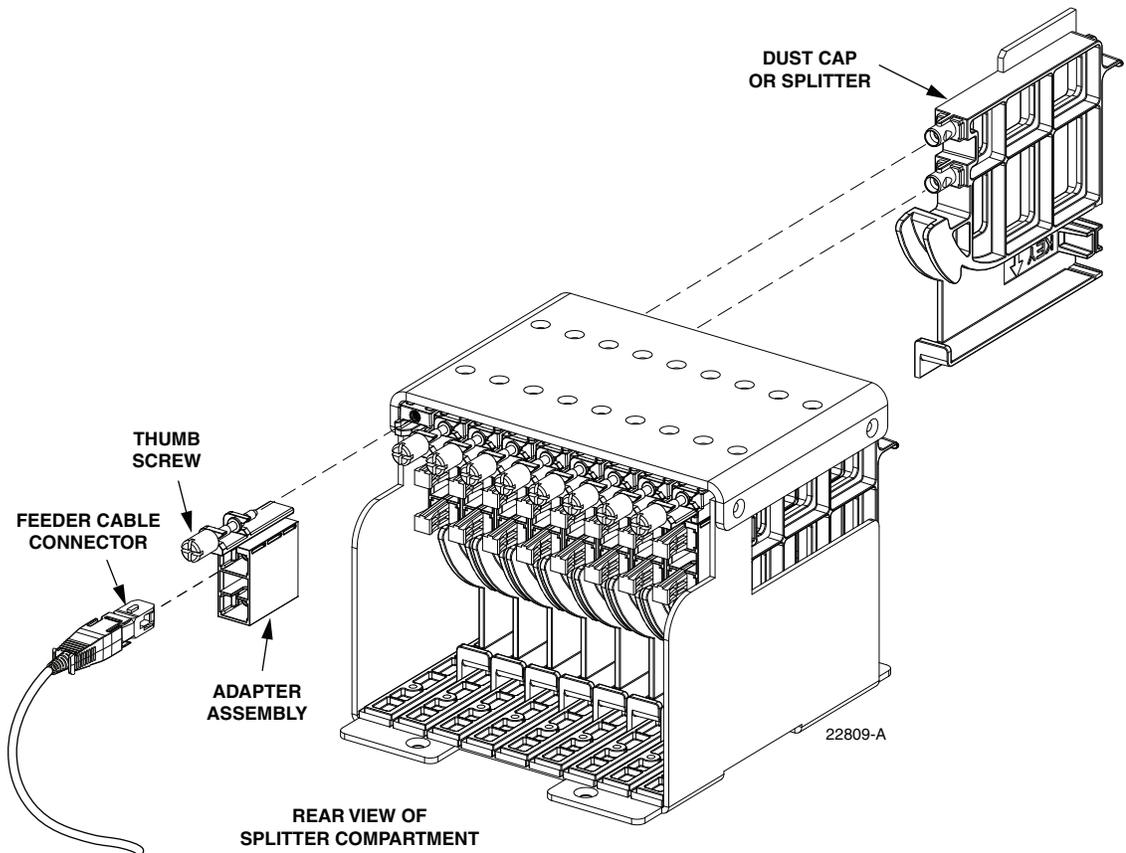

Figure 23. Splitter Compartment Adapter Replacement
3. Remove the feeder cable connector(s) from the rear side of the broken adapter assembly as shown in Figure 23 and install a dust cap on the connector(s).